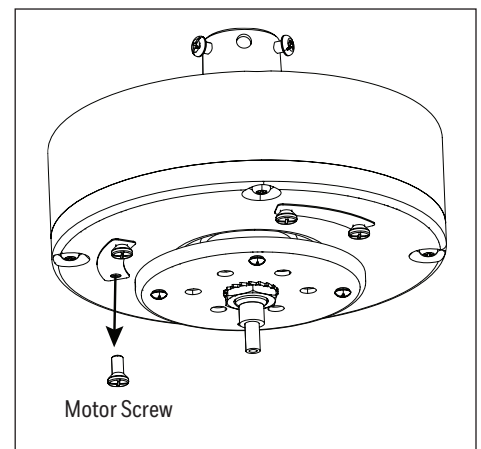

Figure 2.3
3. Remove the 6 motor screws from the underside of the motor assembly and save for blade arm installation (Figure 2.3).